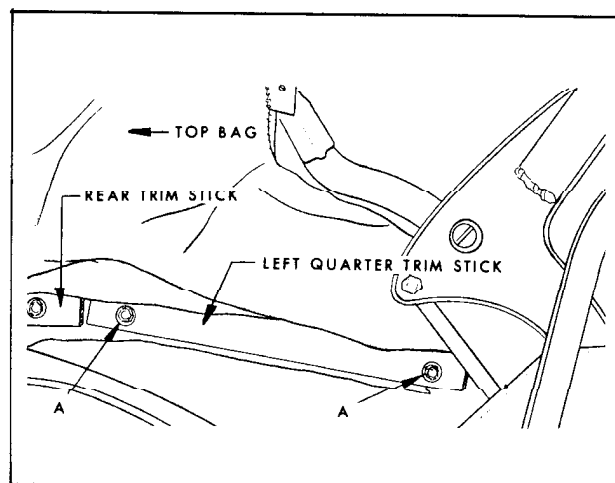

Fig. 17-122 Trim Stick Removal
6. At each rear quarter area remove attaching bolts and washers securing rear quarter trim stick assembly to rear quarter inner panel. (Fig. 17-122)